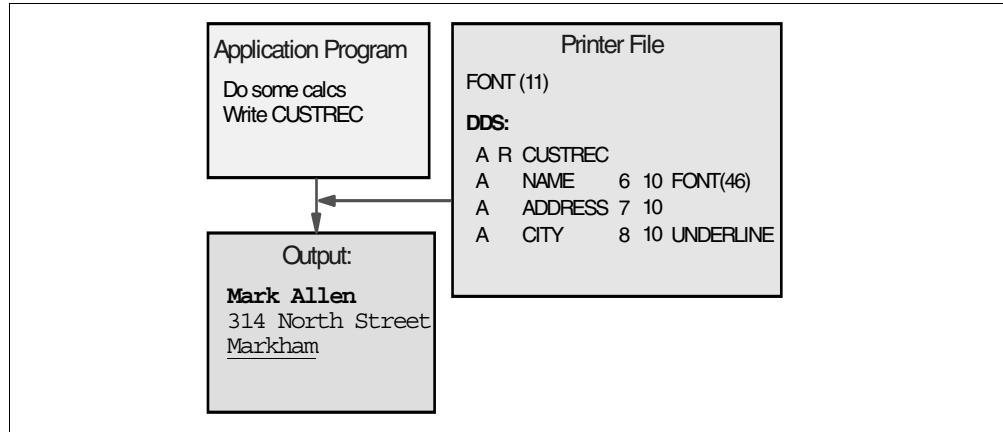

Figure 1. Using a printer file
In Figure 1, "Using a printer file" on page 5 you can see how a simple printer file with DDS can affect the format of the resulting output. The application program issues an instruction to write a record of data. Using the information in the printer file, the appropriate data stream commands are built into the resulting spooled file and the output will have the desired characteristics. In this example, the printer file was created specifying a default font 11 (Courier medium at 10 cpi). In the DDS the keyword FONT(46) acts upon just the name field to cause it to print in Courier bold. A further keyword, UNDERLINE, acts only upon the city field.